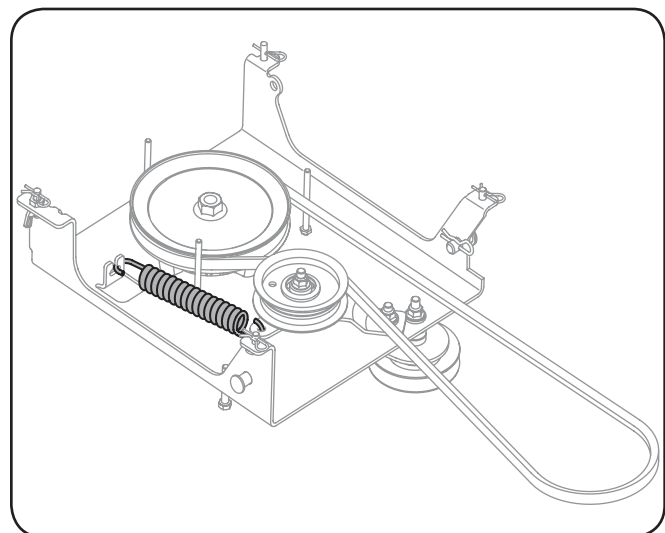

Figure 3-2
2. Refer to Fig. 3-2 for correct position.